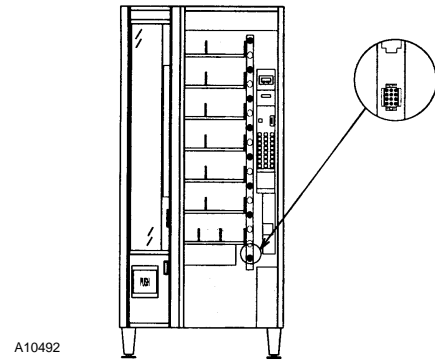

Figure 5. H Connector on the Host
4. Connect the umbilical cord from the Satellite Vendor to the "H" (lower) connector of the host machine. See Figure 5.